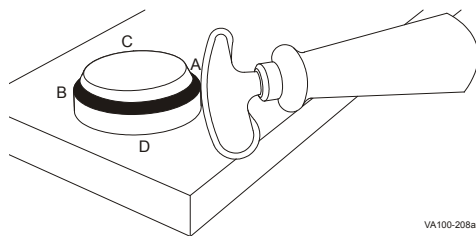
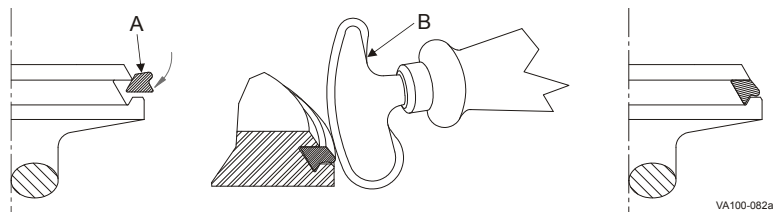

Figure 23 - Pressing Tri Ring Into Plug
Figure 22 - Installing New Tri Ring Seat
3. Lubricate the new Tri Ring (Figure 22, item A) with acceptable cleansing solution or lubricant.
5. Start the Tri Ring as shown in Figure 22.
6. Using the installation tool, part number 102797+ (Figure 22, item B), press the Tri Ring into the plug at locations A, B, C, and D (Figure 23). If the tool is not used, DO NOT use a knife or any other sharp item that will tear or cut the Tri Ring.
8. When properly installed, the Tri Ring seat lip will protrude slightly from the seat edge as shown in Figure 22.